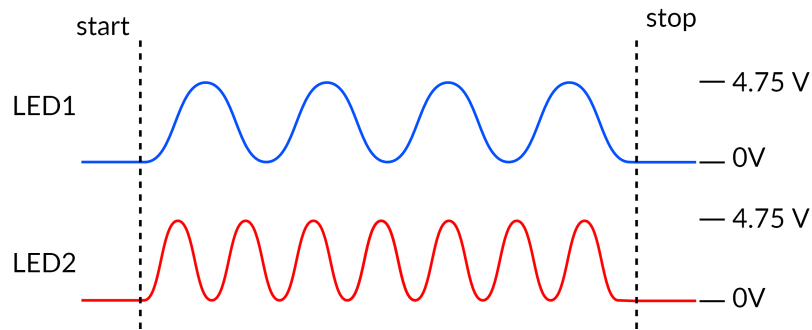

Figure 3.11: Lock-in Acquisition Timing Diagram
- When using the **Lock-In** mode, the input will only record signals at a given reference frequency, filtered by a low-pass filter. This allows the detection of multiple different signals if each is at its own reference frequency (Fig. 3.11). A more detailed procedure to use this modality is included in section 3.1.3.